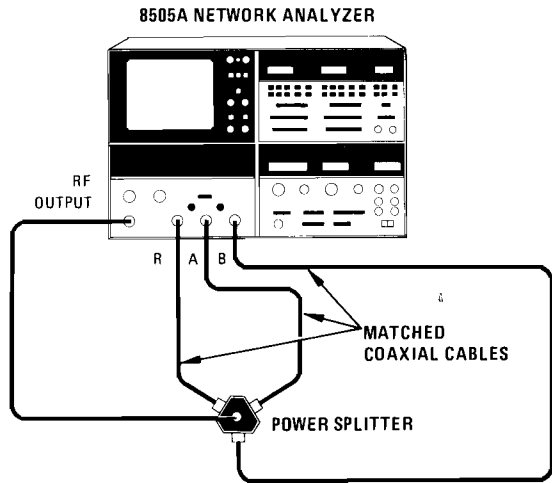

Figure A4-6. Marker Accuracy Test Setup
a. Connect equipment as shown in Figure A4-6.